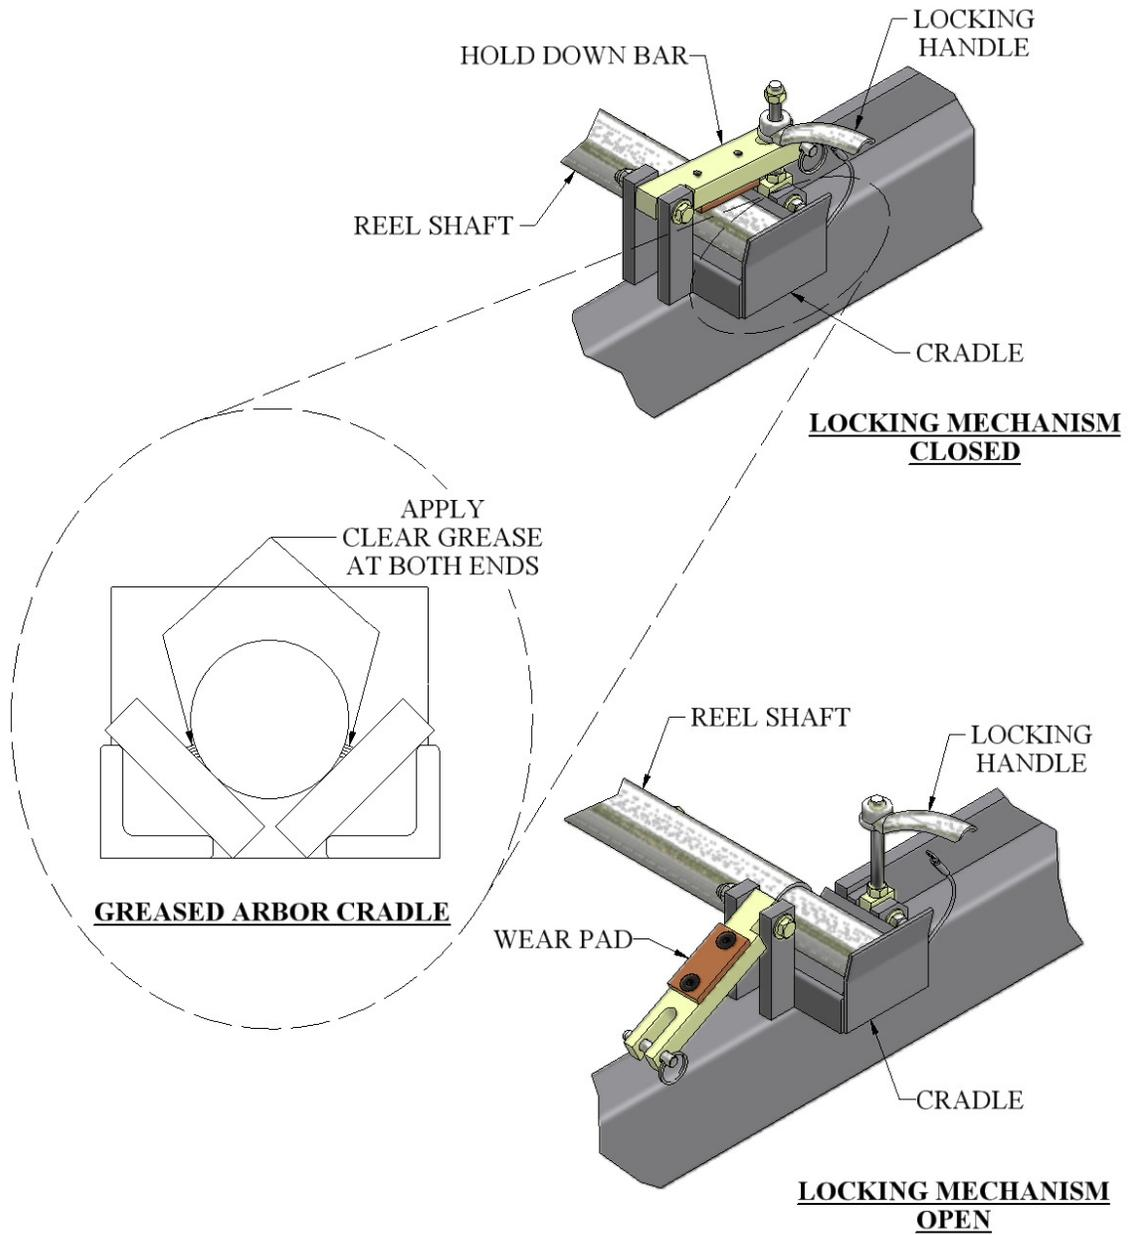

Figure 11: Expandable Reel Assembly
1. The reel shafts must rest in the cradles on the reel rack. Keep the cradles lubricated with synthetic lube to minimize wear. (Figure 11)
2. Use the Hold Down Bars on each cradle to secure the coil and reel to the reel stand during both operation and transit of the machine. The Hold Down Bracket should be used to keep the coil from uncoiling too fast during the fabrication of panels. Apply just enough drag to keep coil tensioned. (Figure 11)
1. Prepare the reel stand by making sure the Hold Down Bars are in the unlocked and open Position (Figure 11).
3. Rotate the Hold Down Bars (Figure 11) to the closed position and thread the handle onto the hold down bolt. If material is going to be used from this coil, tighten the left and right handle just snug. Final adjustment of tension should be made while running a panel to keep reel from unwinding material too fast. As the coil becomes smaller, re-adjustment will need to be made.